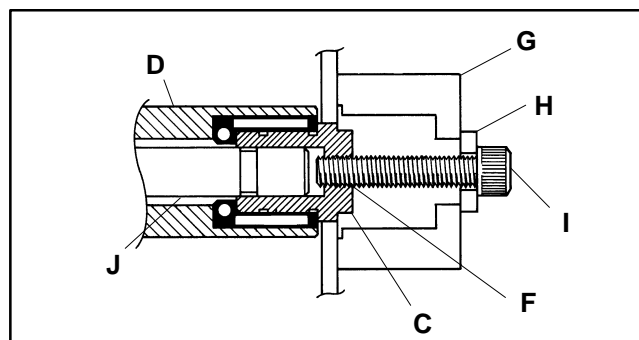

Figure 21
3. Remove the retaining sleeves (C) and pulley (D). If retaining sleeves are stuck or wedged tight, proceed to the next step.
4. To remove a wedged sleeve, refer to Figure 21 and remove the grease fitting. Then, working through the grease fitting hole (F of Figure 21) in the sleeve (C), form a puller arrangement as shown. Use the bearing anvil/sleeve removal tool 25-09 (G), washer 605279 (H) and M6 x 35 mm socket head cap screw 920635M (I). All these parts are in Tool Kit on page 29.
5. Remove the pulley shaft (J) from the pulley (D) and replace the pulley bearing. See "Bearing Removal" subtopic on this page.
1. Insert pulley shaft (J of Figure 21) into the pulley (D).